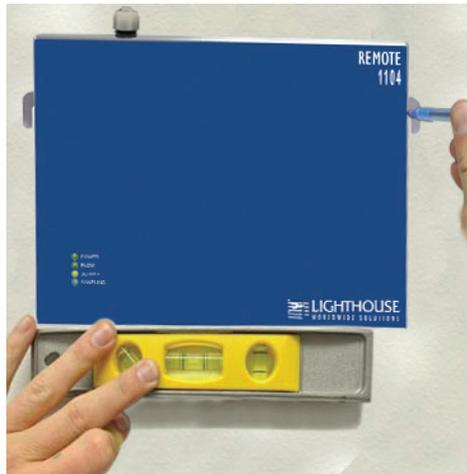

Figure 3-2 Marking Wall for Mount Point
2. Level the instrument and mark where mounting holes will be drilled. Take care to not drop the instrument while marking. Refer to Figure 3-2.